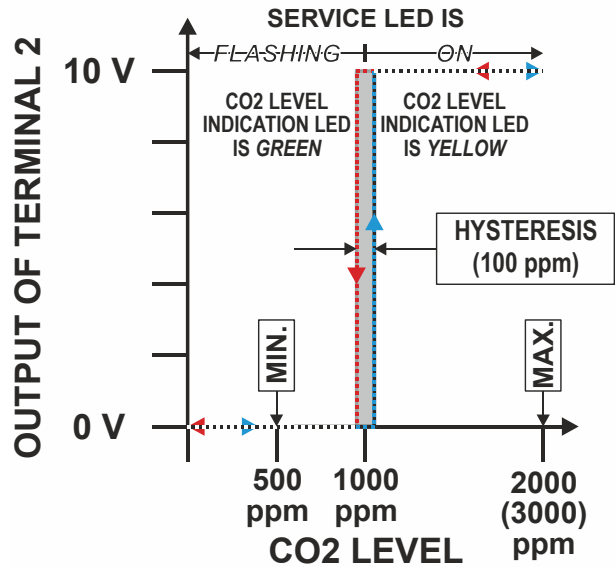

Fig. 14. Relay output mode (digital)
- To select the "Relay Output" mode (digital), set the configuration potentiometer to between the "MIN." and "MAX." markers (see Fig. 12). The hysteresis value is permanently set to 100 ppm. See also Fig. 14.